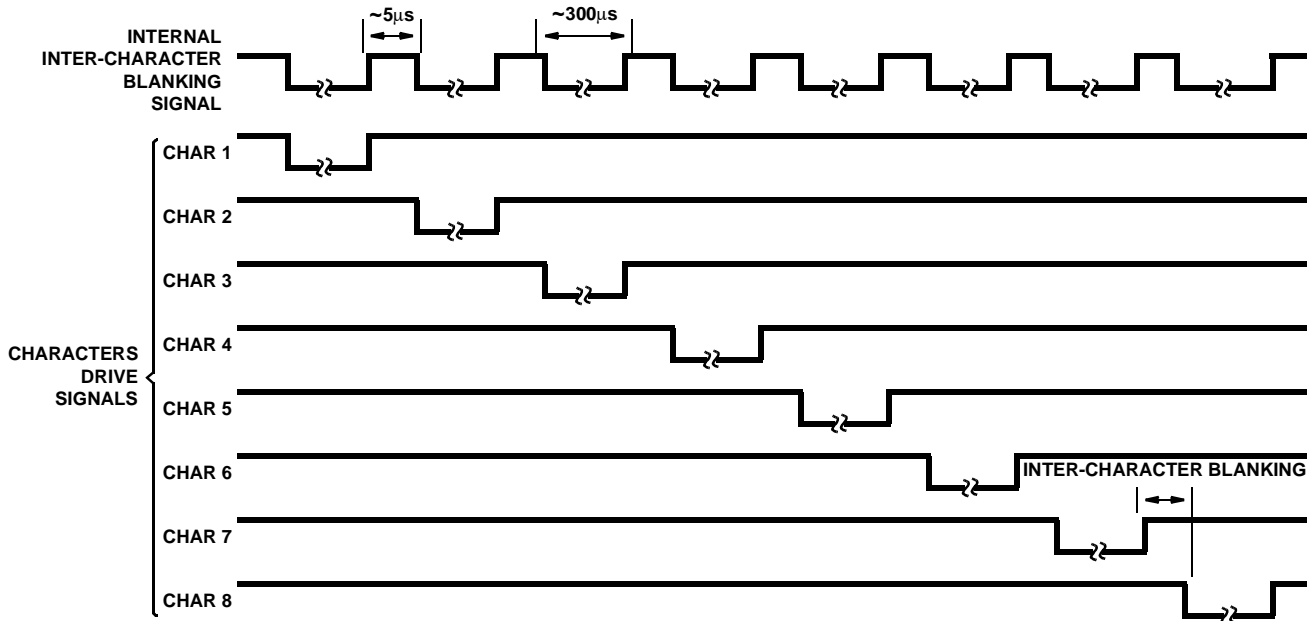

FIGURE 3. DISPLAY CHARACTERS MULTIPLEX TIMING DIAGRAM
**Random Access Mode** - When the internal mode latch is set for **Random Access (RA)** (MODE latched low), the Address input on A0, A1 and A2 will be latched by the falling edge of  $\overline{WR}$  (or its equivalent). Subsequent changes on the Address lines will not affect device operation. This allows use of a multiplexed 6-bit bus controlling both address and data, with timing controlled by  $\overline{WR}$ .
**Sequential Access Mode** - If the internal latch is set for **Sequential Access (SA)**, (MODE latched high), the Serial ENable input or SEN will be latched on the falling edge of  $\overline{WR}$  (or its equivalent). The  $\overline{CLR}$  input is asynchronous, and will force-clear the Sequential Address Counter to address 000 (CHARacter 1), and set all Data Memory contents to 100000 (blank) at any time. The DISPLAY FULL output will be active in **SA** mode to indicate the overflow status of the Sequential Address Counter. If this output is low, and SEN is (latched) high, the contents of the Counter will be used to establish the Data Memory location for the Data input. The Counter is then incremented on the rising edge of  $\overline{WR}$ . If SEN is low, or DISPLAY FULL is high, no action will occur. This allows easy "daisy-chaining" of display drivers for multiple character displays in a **Sequential Access** mode.
**OSC/OFF** - The device includes a relaxation oscillator with an internal capacitor and a nominal frequency of 200kHz. By adding external capacitance to  $V_{DD}$  at the OSC/ $\overline{OFF}$  pin, this frequency can be reduced as far as desired. Alternatively, an external signal can be injected on this pin. The oscillator (or external) frequency is pre-divided by 64, and then further divided by 8 in the Multiplex Counter, to drive the CHARacter drive lines (see Figure 3). An inter-character blanking signal is derived from the pre-divider. An additional comparator on the OSC/ $\overline{OFF}$  input detects a level lower than the relaxation oscillator's range, and blanks the display, disables the DISPLAY FULL output (if active), and clears the pre-divider and Multiplex Counter. This puts the circuit in a low-power-dissipation mode in which all outputs are effectively open circuits, except for parasitic diodes to the supply lines. Thus a display connected to the output may be driven by another circuit (including another ICM7243) without driver conflicts.